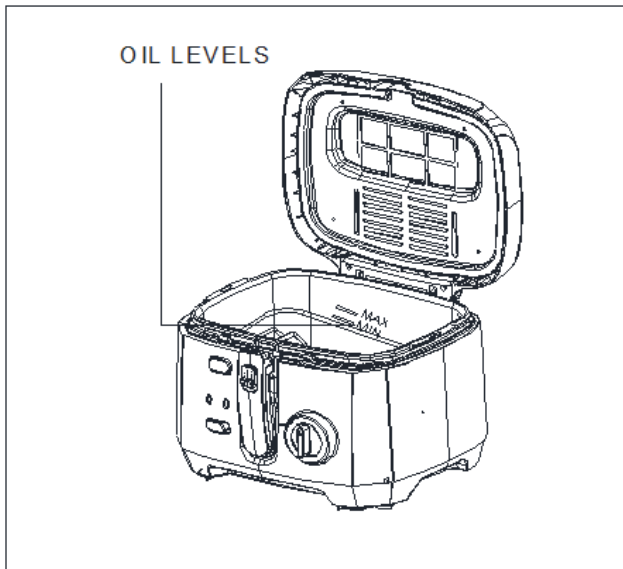

FIG.9
2. Pour between 2-2.5 litres of oil into the fryer. The level of oil must be between the MAX and MIN level marked on the surface of the pot. (FIG.9)